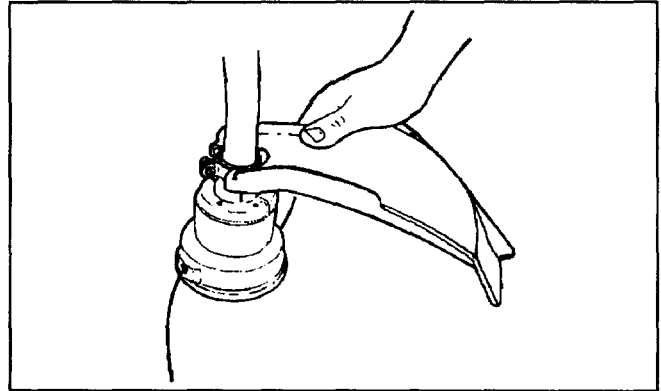

Fig. 2
1. Place the line guard onto the boom above the clamp assembly (Fig. 2).